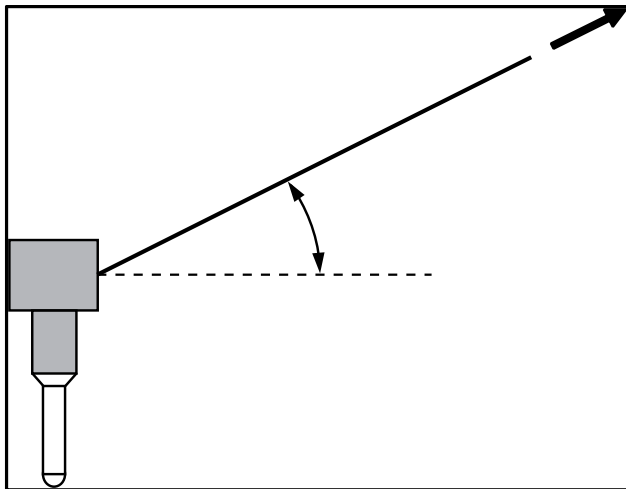

Figure 31: Cable for exhaust temperature sensor
Permissible bending angle of cable: max. 30° (see Figure 31).
- Permissible loading max. 10 N per individual wire of cable (see Figure 31).